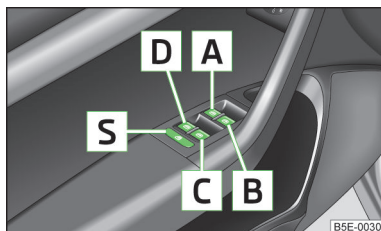

Fig. 23
- It is recommended to deactivate the electrically operated power windows in the rear doors (safety switch)  if there are children in the rear seats » Fig. 23 on page 48.
Buttons for the electrical power windows » Fig. 23.
The buttons for power windows in the rear doors can be deactivated by pressing the safety switch **S** » Fig. 23. The buttons for the electrical power windows in the rear doors are activated again by pressing the safety pushbutton **S** again.
- Hold button  in the opening position » Fig. 23 on page 48.
- Hold button  in the closing position » Fig. 23 on page 48.